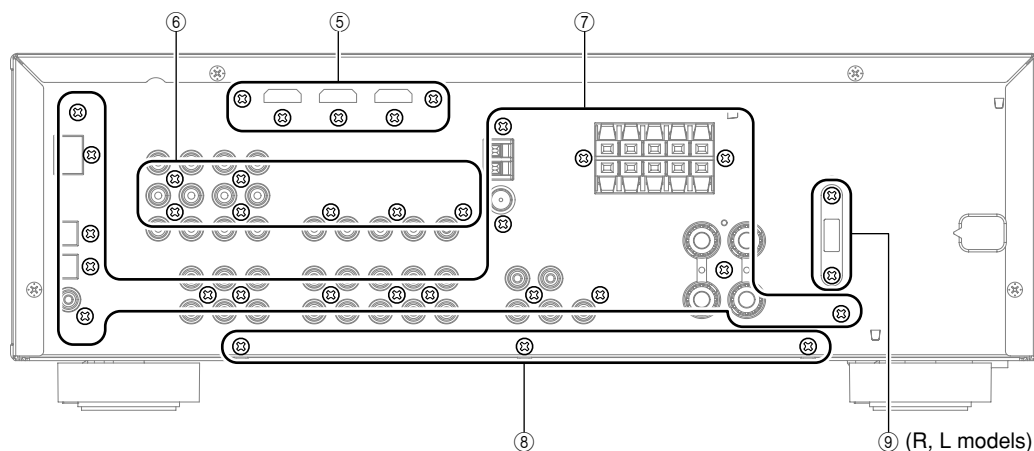

Fig. 3
- b. Remove 5 screws (⑤). (Fig. 3)
- b. Remove 7 screws (⑥). (Fig. 3)
- a. Remove 18 screws (⑦), 3 screws (⑧) and 2 screws (⑨) (R, L models). (Fig. 3)
- Remove 3 screws (⑧). (Fig. 3)